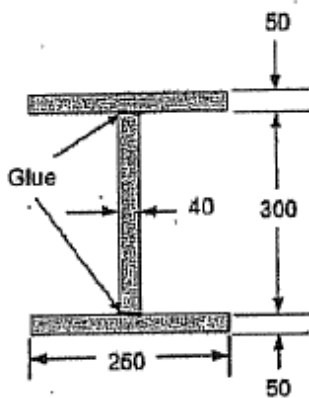
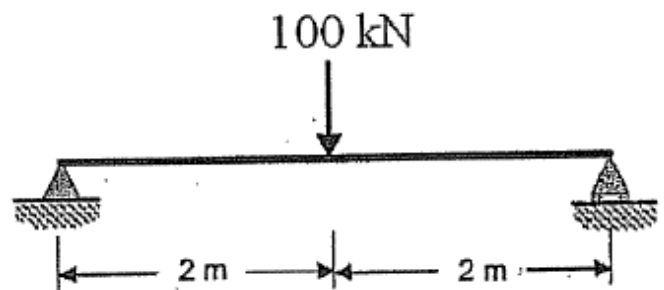

Figure 2
Figure 3
- b) An I-beam is made of three wooden planks glued together as shown in **Figure 2**. The beam is to carry a concentrated load of 100kN at its mid-span as shown in **Figure 3**. **[15 marks]**